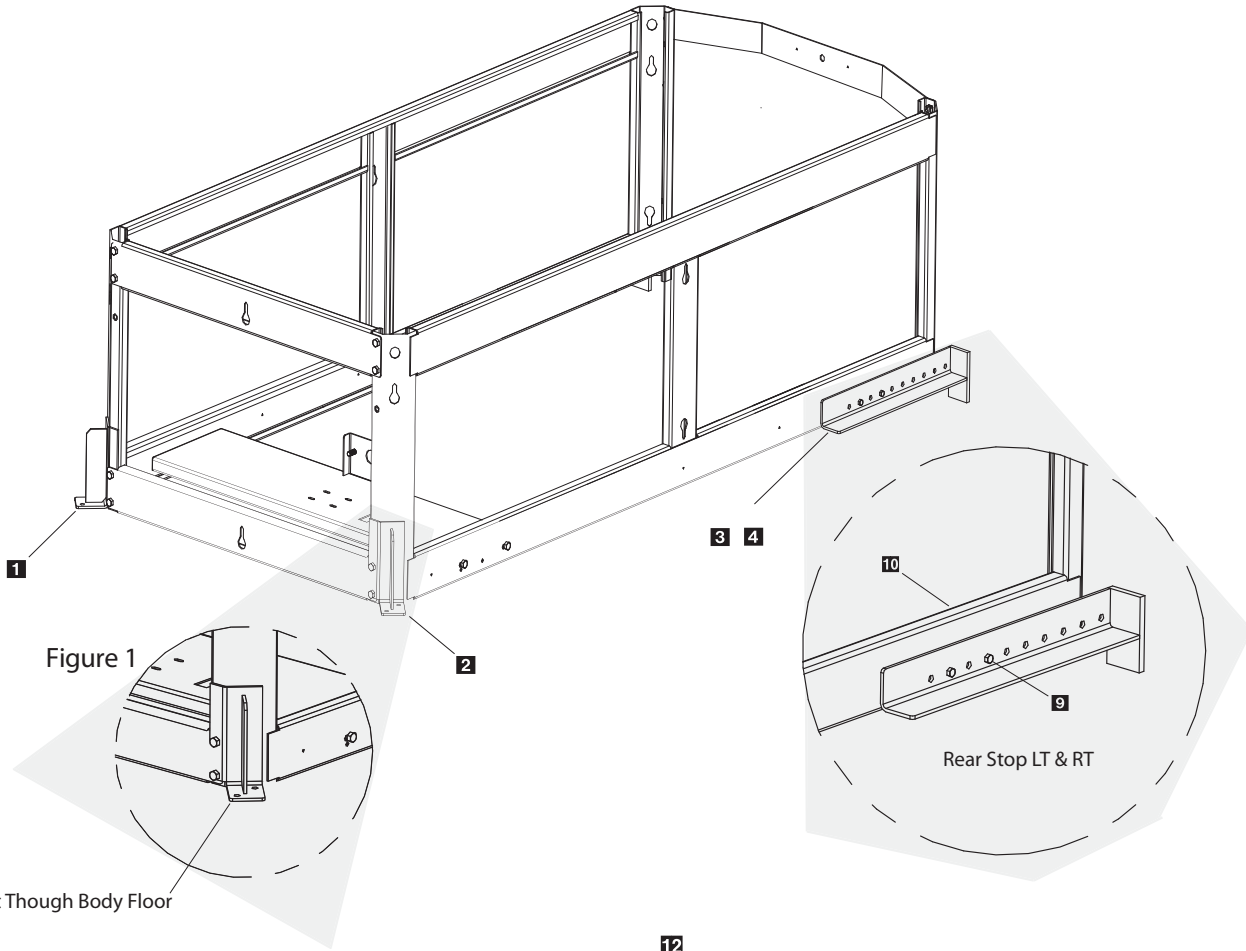

Figure 1
Step 4-A: Install front stops using supplied hole patterns (see Fig.1). You will need to bolt through the body.
Step 5: Now that the spreader is positioned front to back, you will now center it left to right. Looking at the inside front and rear corner of the lower frame area, you will notice (4) holes in the bottom of the frame. Using a paint pen or similar marking device, mark hole locations.